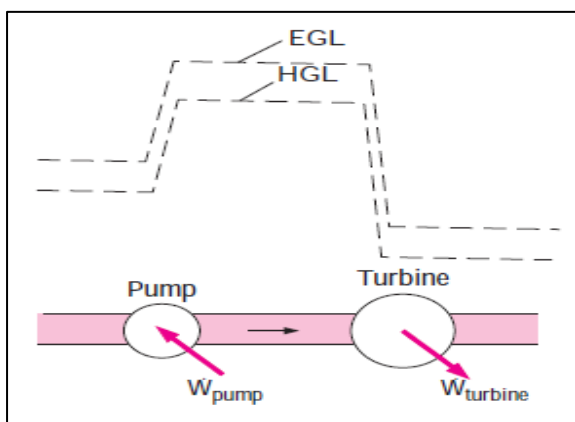

Figure 6. Jump and Drop-in EGL & HGL
- A steep jump occurs in EGL and HGL whenever mechanical energy is added to the fluid (by a pump, for example). Likewise, a steep drop occurs in EGL and HGL whenever mechanical energy is removed from the fluid (by a turbine, for example), as shown in Figure 6.